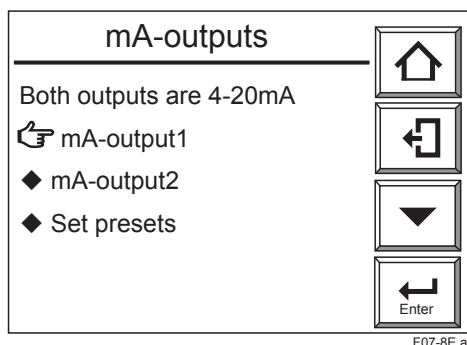

Figure 7.8 Setting “mA-outputs”
- (1) Select the “Commissioning” in the Execution/Setup display.
- (2) Select the “mA-output setup” in the Commissioning display; the display shown in Figure 7.8 then appears.